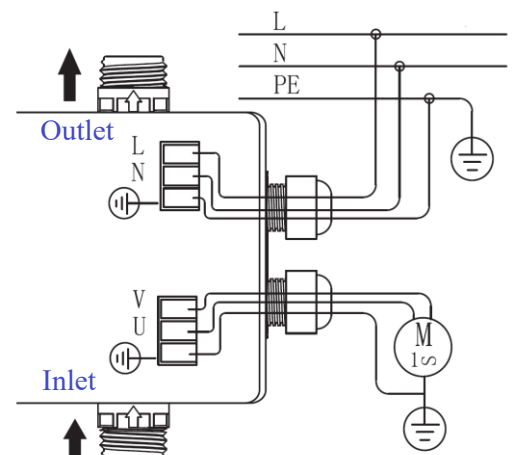

Fig. 3
- Open the upper cover and connect the wires according to the wiring diagram (see Fig. 3).